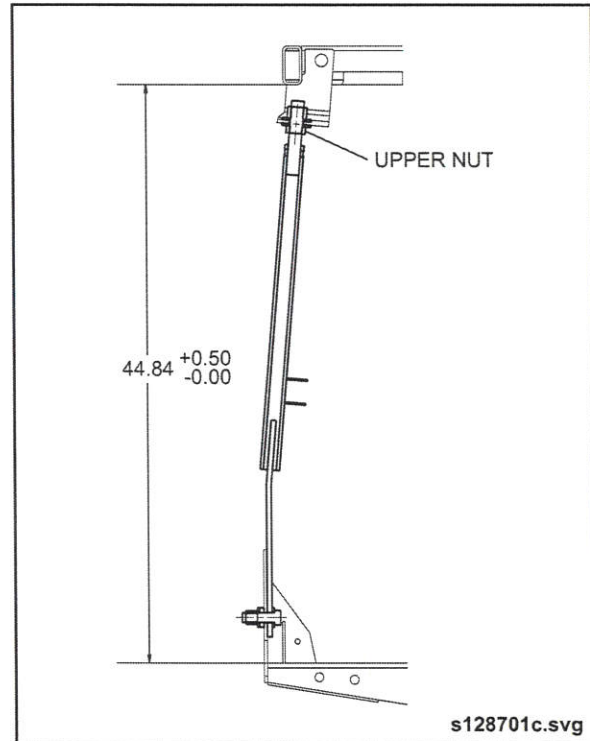

Fig. 4-7: Engine Strut Tensioning
6. Measure the distance between the lower frame rail and upper vehicle structure. See "Fig. 4-7: Engine Strut Tensioning" on page 10.